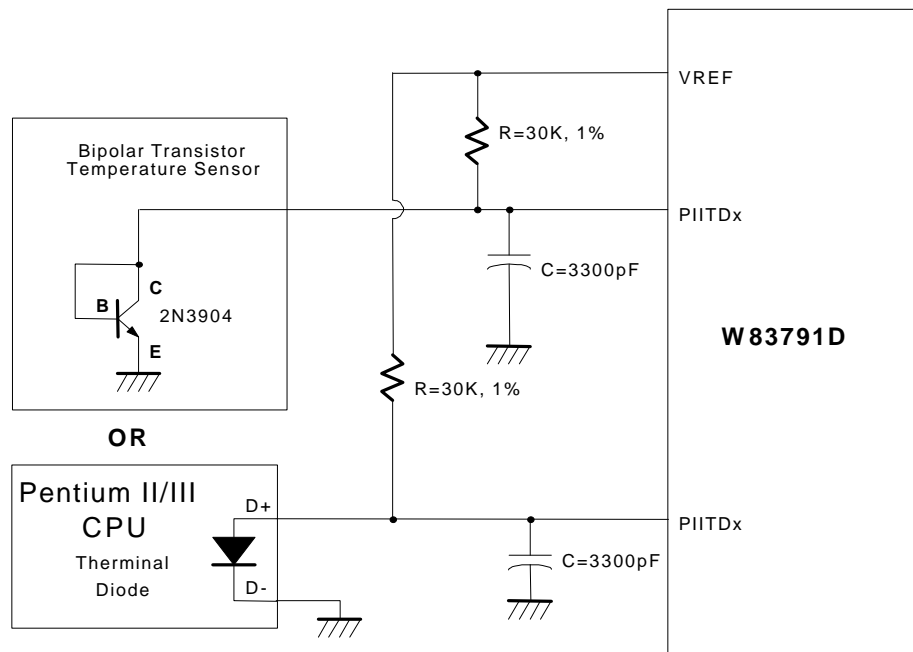

Figure 11.
The negative voltage should be connected to two series resistors and a positive voltage VREF (equal to 3.6V). In the Figure 11, the voltage V3 and V4 are two negative voltages and are -12V and -5V respectively. The voltage V3 is connected to two serial resistors as well as another positive terminal VREF. Therefore, the voltage node N12VIN would be a positive voltage if the scale of the two serial resistors are carefully selected. It is recommended from Winbond that the scale of the two serial resistors are R5=232K ohms and R6=56K ohm. The input voltage of node -12VIN can be calculated by the following equation.
The W83791D can connect three thermistors to measure three different environmental temperatures. The specification of thermistor should be considered to (1) β value is 3435K, (2) resistor value is 10K ohms at 25°C. In the Figure 11, the themistor is connected by a serial resistor with 10K Ohms(1% error), then connect to VREF (Pin 37).
The W83791D can alternate the thermistor to Pentium II/IIITM thermal diode interface or transistor 2N3904 and the circuit connection is shown as Figure 11. The pin of Pentium II/IIITM D- is connected to power supply ground (GND) and the pin D+ is connected to pin PIITDx in the W83791D. The resistor R=30K ohms should be connected to VREF to supply the diode bias current and the bypass capacitor C=3300pF should be added to filter the high frequency noise. The transistor 2N3904 should be connected to a form with a diode, that is, the Base (B) and Collector (C) in the 2N3904 should be tied together to act as a thermal diode.